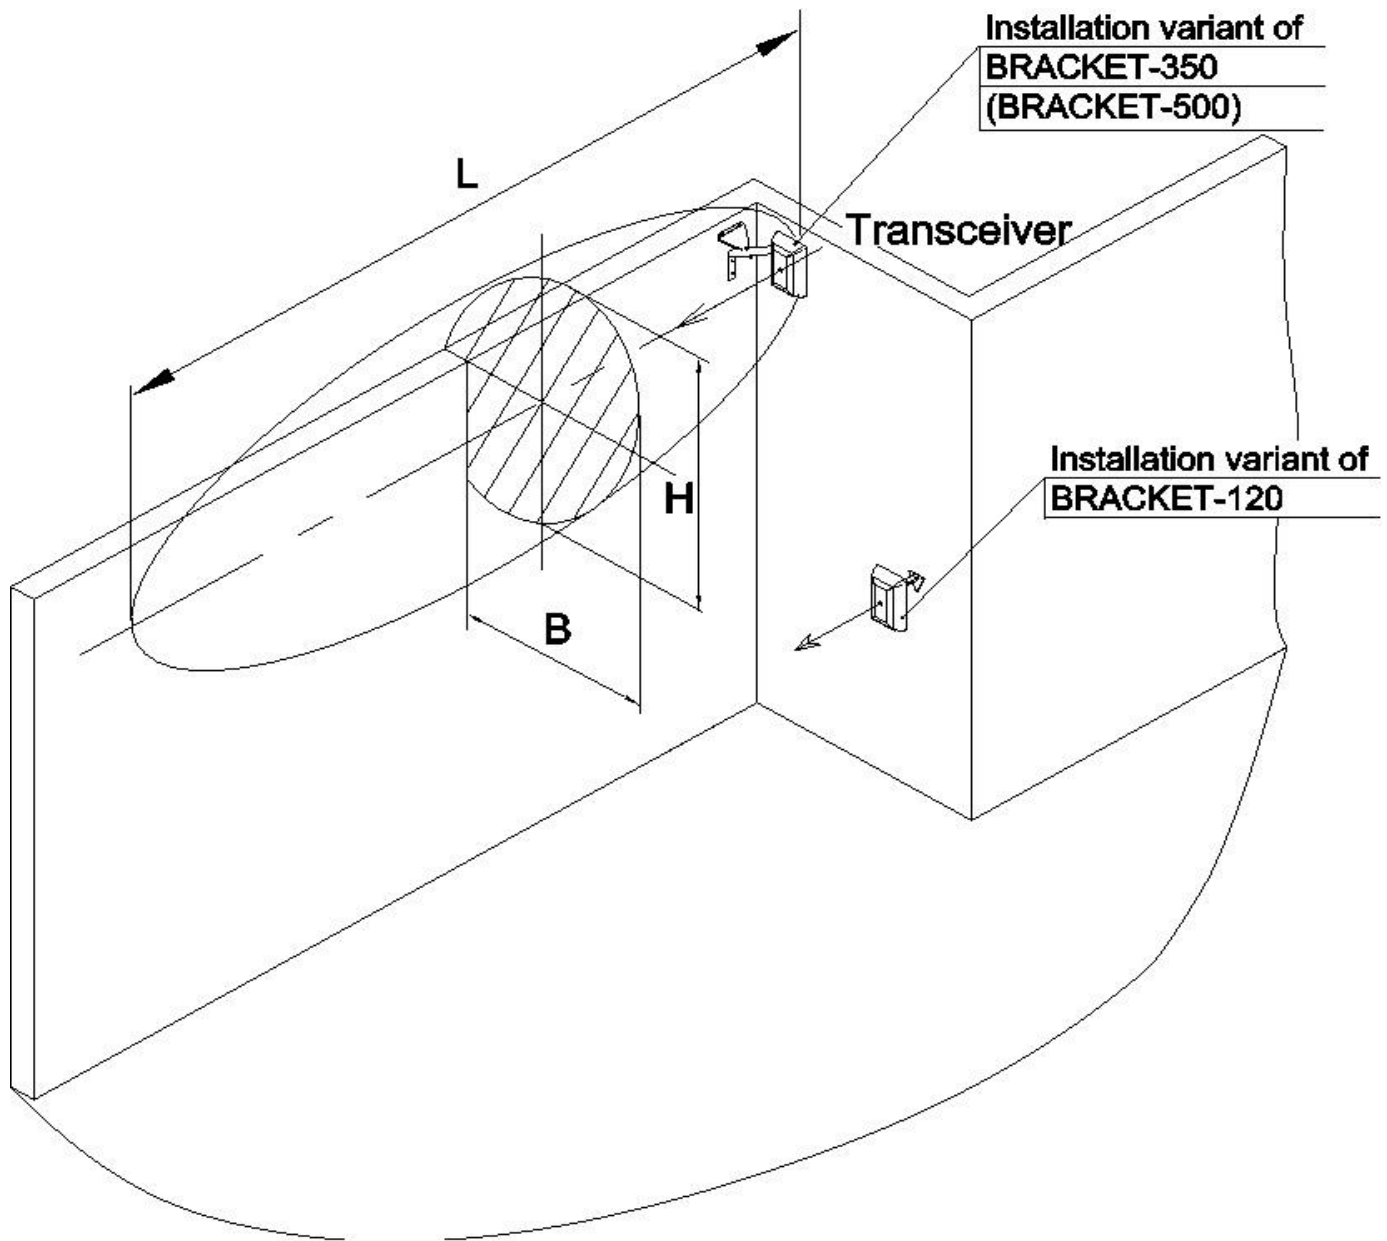

Figure 2.5 – Mounting on brackets 500, 350, 120 mm
2.3.5.8 Figure 2.5 shows mounting of the sensor using brackets 500, 350 120 mm